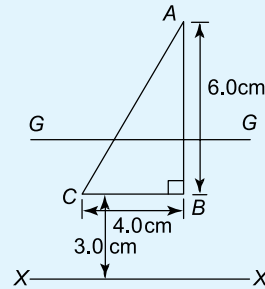

Figure 9.42
9. The second moment of area about axis XX of the triangle ABC shown in Figure 9.42 is:
10. The radius of gyration about axis GG of the triangle shown in Figure 9.42 is: